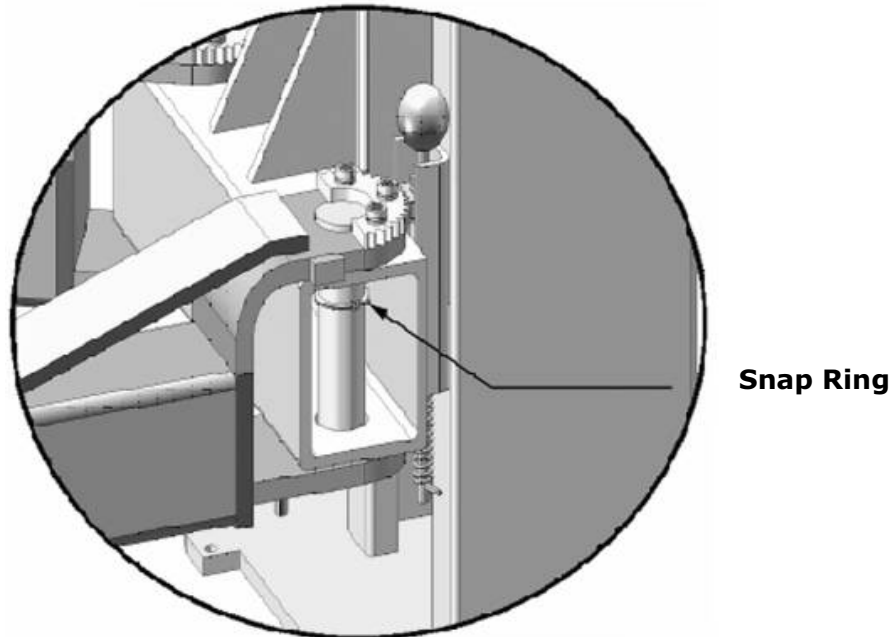

Fig. 22
K. Install Lifting Arms and Adjust the Arm Locks (See Fig. 22, 23 & 24)